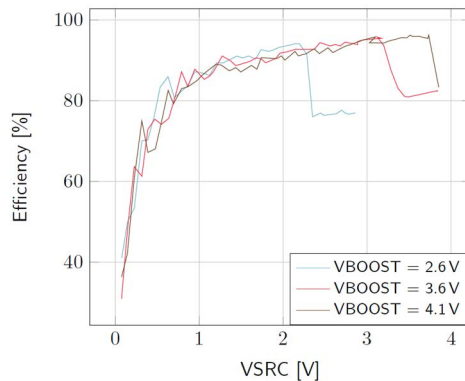

Figure 8: Boost efficiency for ISRC = 1mA
**VBOOST:** Measure the current and the voltage. Repeat the measurement a copious number of times to be sure to capture the current peaks. Figure 8 has been obtained by averaging over 100 measurements configured with a 100 ms integration time.